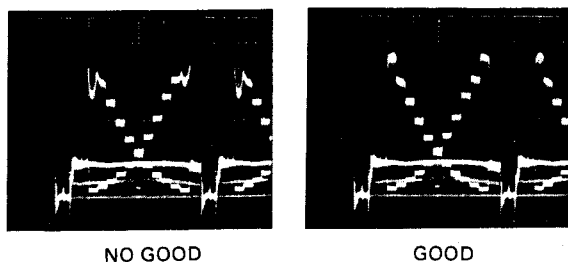

Fig. 5-4-10
- o Trigger the oscilloscope at H rate (Use TP9 (BL), Deflection board.).
- o Turn VR20 (G BEAM) fully clockwise first. Then turn it back slowly and stop at the point where the white chip (top step) of gray scale waveform just appears completely. (Fig. 5-4-10)
- o Turn VR22 (R BEAM) fully clockwise first. Then turn it back slowly and stop at the point where the white chip (top step) of gray scale waveform just appears completely as in the case of G beam adjustment. (Fig. 5-4-10)
- o Turn VR21 (B BEAM) fully clockwise first. Then turn it back slowly and stop at the point where the white chip (top step) of gray scale waveform just appears completely as in the case of G and R beam adjustment. (Fig. 5-4-10)